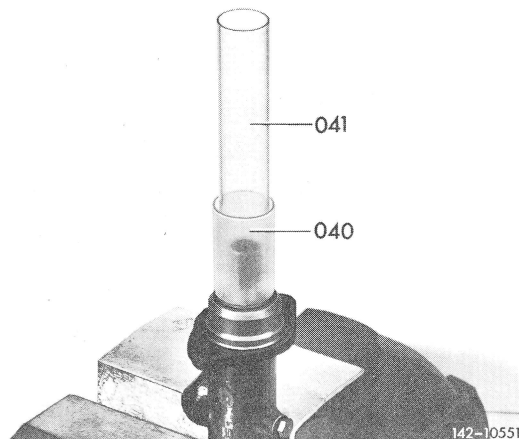

Fig. 17
29 Slip both sleeves with vacuum seal into bore of housing and push seal downwards by means of sleeve (041). Pull up assembly sleeve (040) for height of sleeve first and then remove both sleeves (Fig. 17).